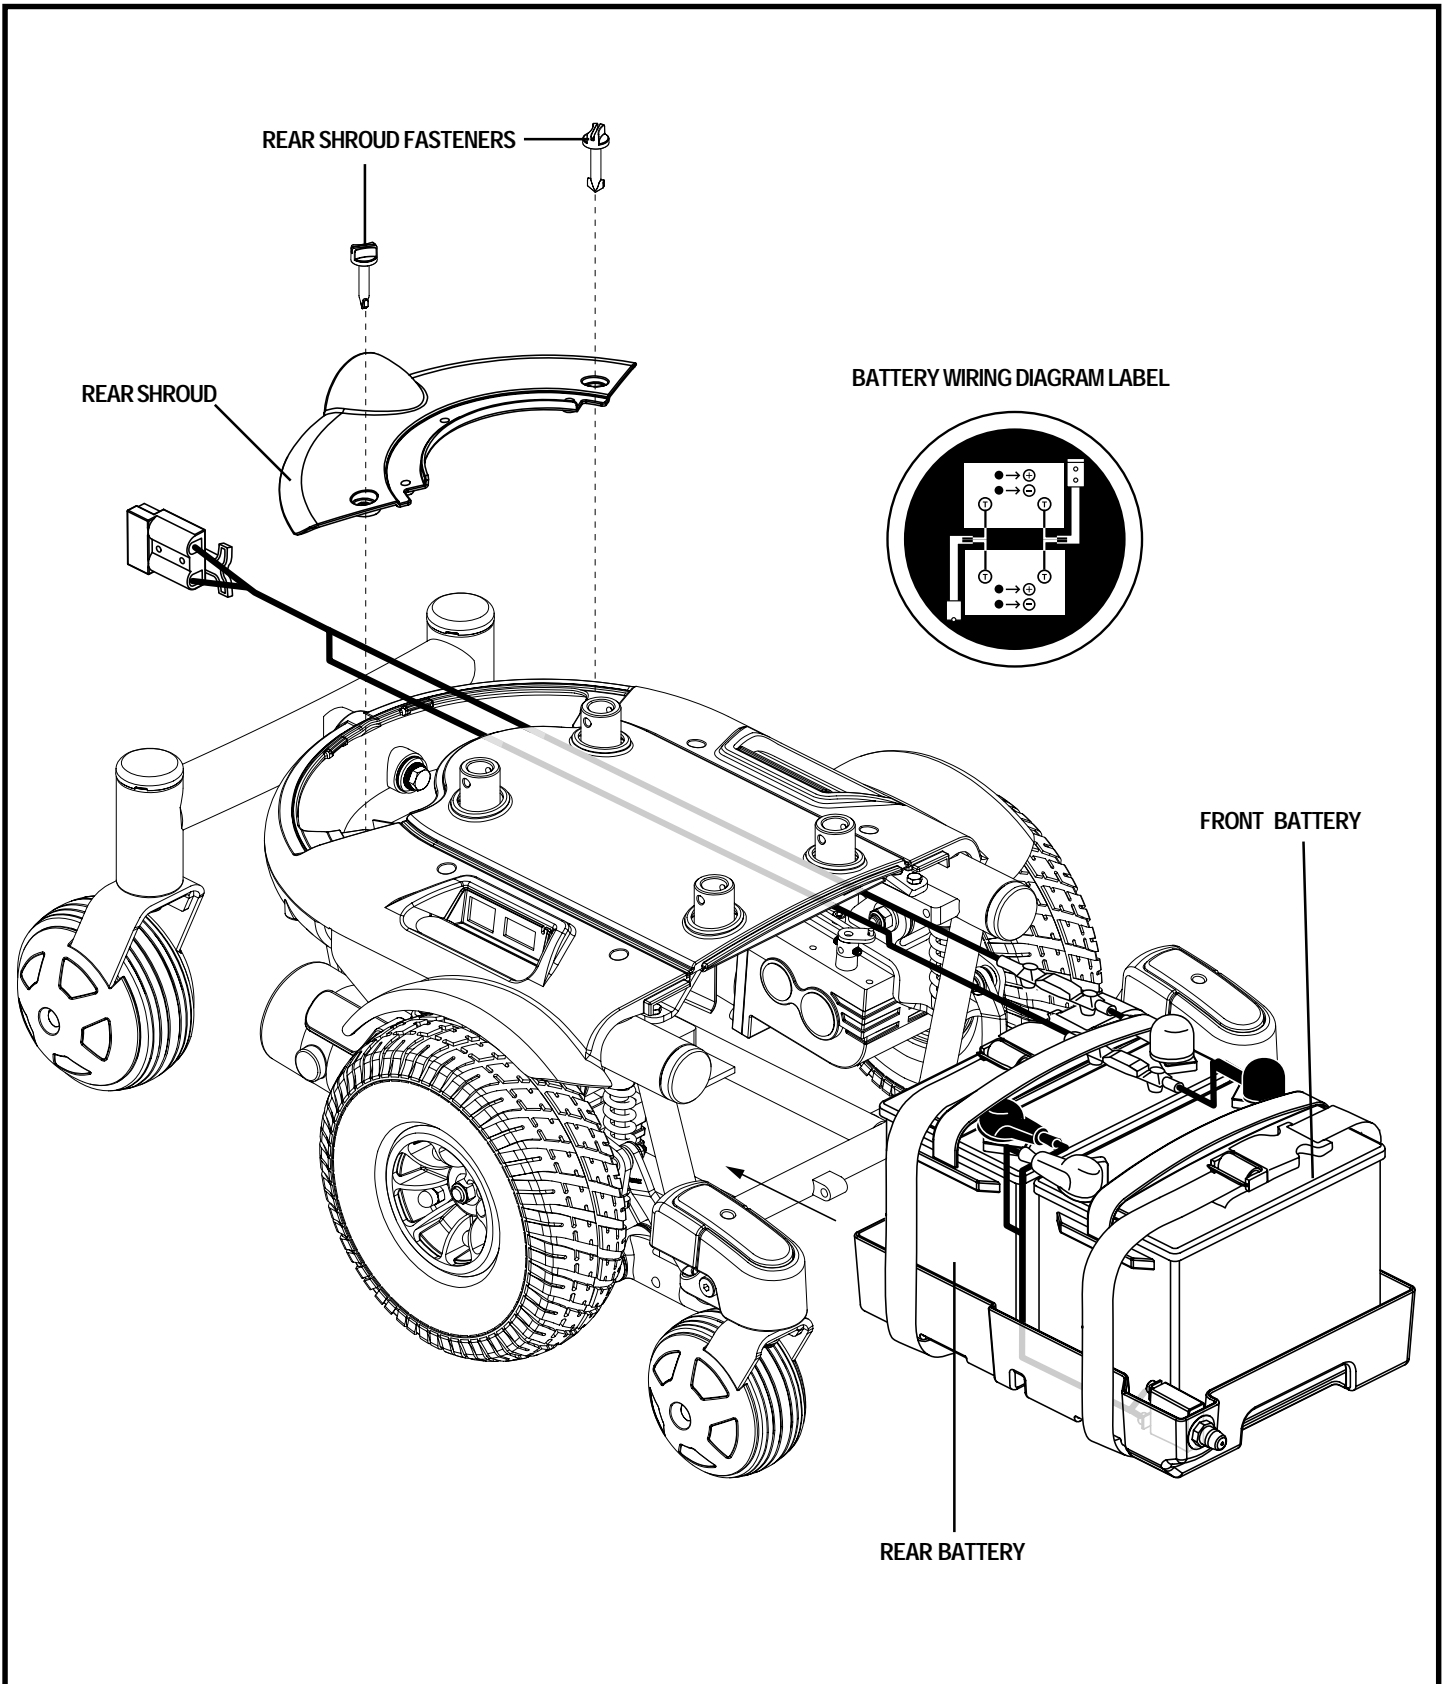

Figure 39. Battery Installation
4. Remove the rear shroud. See figure 39.
13. Connect the battery harness to the front battery according to the battery wiring diagram. See figure 39.